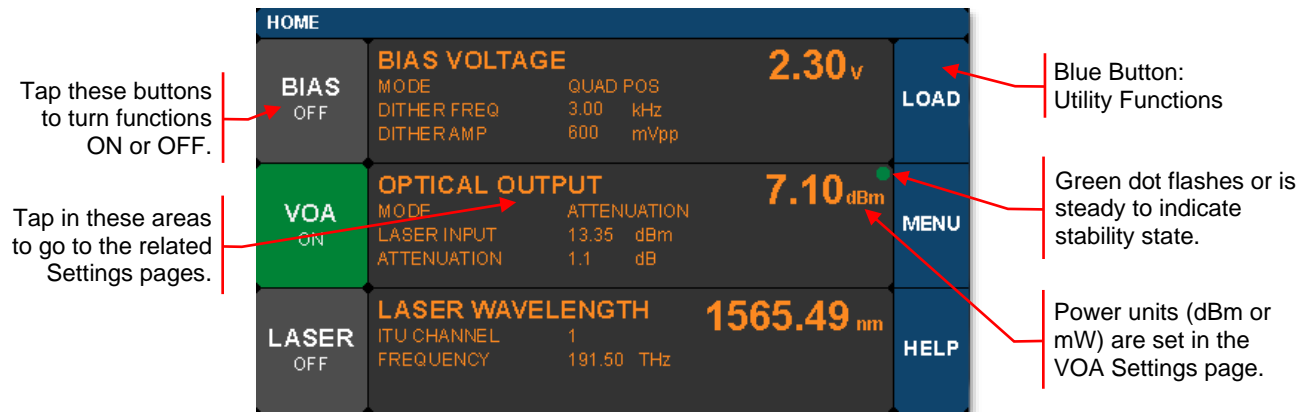

Figure 12 Home Screen Features
4. Turn the laser on by tapping the lower-left touchscreen button on the Home page (Figure 12).
5. Enable the bias controller by tapping the top-left touchscreen button on the Home page (Figure 12). Wait for completion of the calibration process. The instrument will enable the default Quadrature mode with positive slope bias point (Section 4.4.1).
6. Take note of the output power, which is shown in the center right section of the Home page (Figure 12).
7. Turn on the VOA controller to adjust output power, if desired, by tapping the center-left touchscreen button on the Home page (Figure 12).